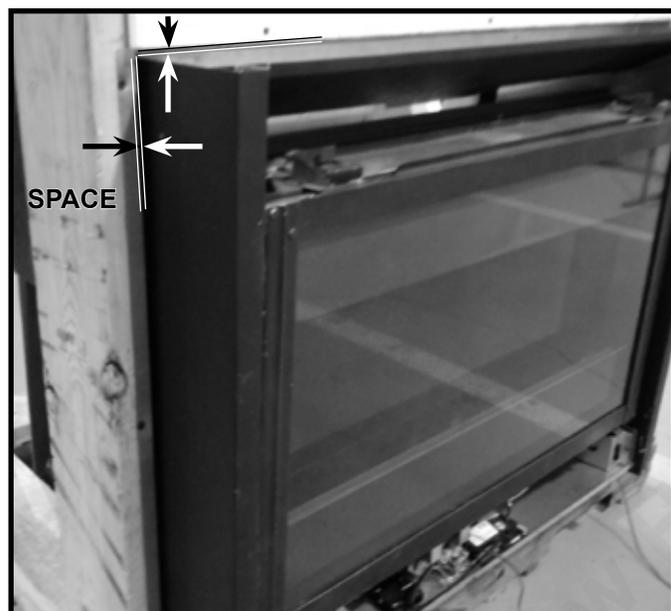

Figure 11.15 Splatter Guard Installation
1. Install the splatter guard in the space between the tub and the top and sides of the appliance outer wrap. See Figure 11.15.